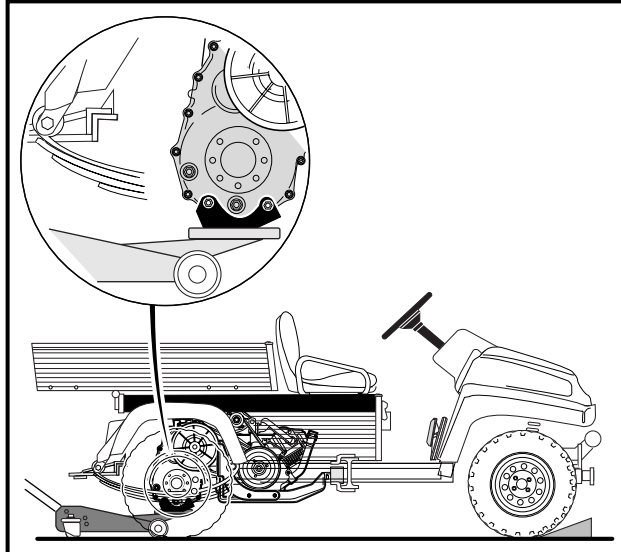

Figure 9-2 Correct Positioning of Floor Jack
3. Chock the front wheels and lift rear of vehicle with a chain hoist or floor jack. If using floor jack, place jack under transaxle as shown (**Figure 9-2, Page 9-3**). **See WARNING "Lift only one end..." in General Warning, Section 1, Page 1-2.**